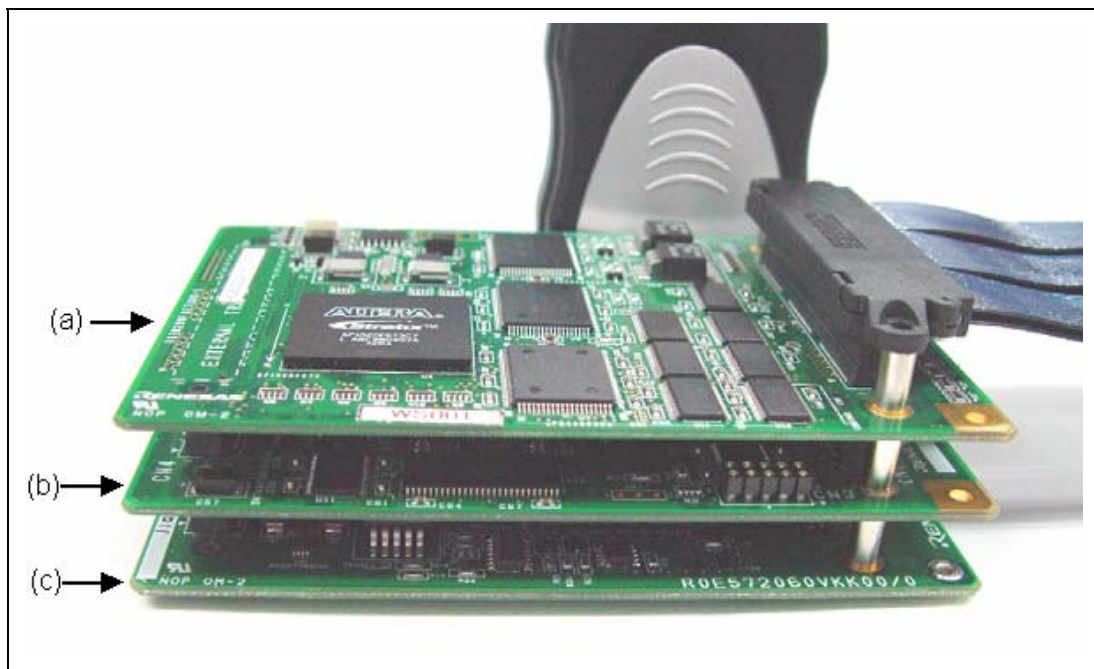

Figure 2.8 Connecting the External Bus Trace Unit, Emulation Memory Unit, and EV-chip Unit
- When the external bus trace unit is used with the emulation memory unit and EV-chip unit, as shown in figure 2.8, connect them in the positions of (a), (b), and (c) for the external bus trace unit, emulation memory unit, and EV-chip unit, respectively.